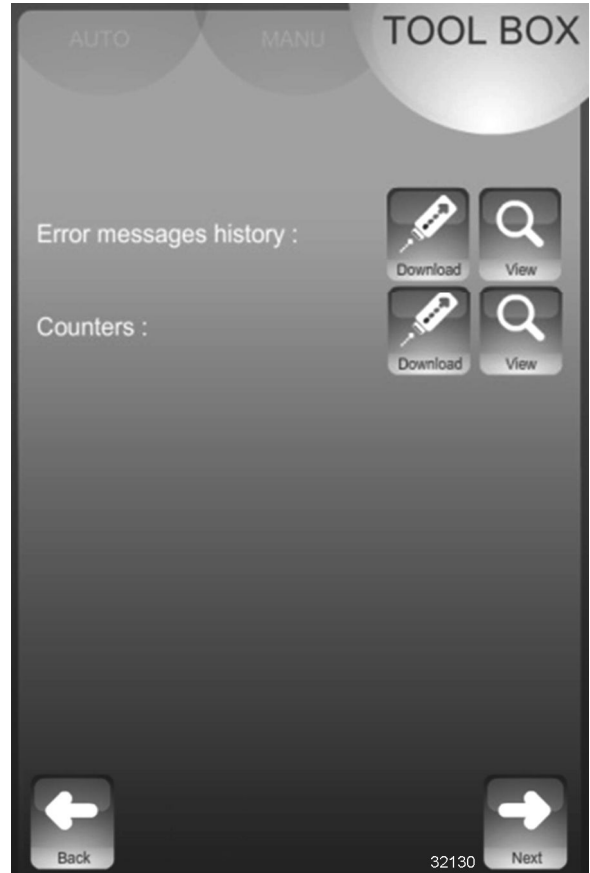

Fig. 97
4. Select **Next** icon to activate **Error History / Counters** screen (Fig. 97). Additional information is found in ERROR HISTORY / COUNTER SCREENS AND INFORMATION.